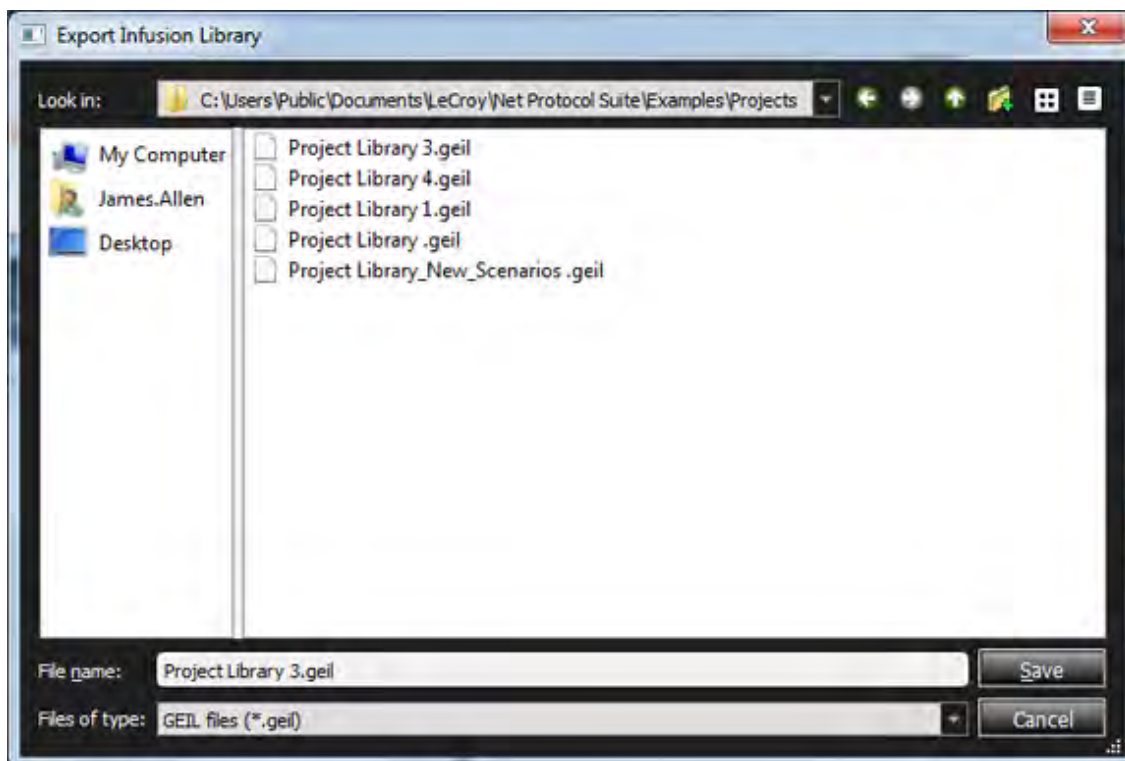

Figure 6.18: Exported Project InFusion Library in Project Folder
3. Choose the **Projects Folder**, then click **Save**. The selected Project Library is stored under the Projects Folder (Figure 6.18).